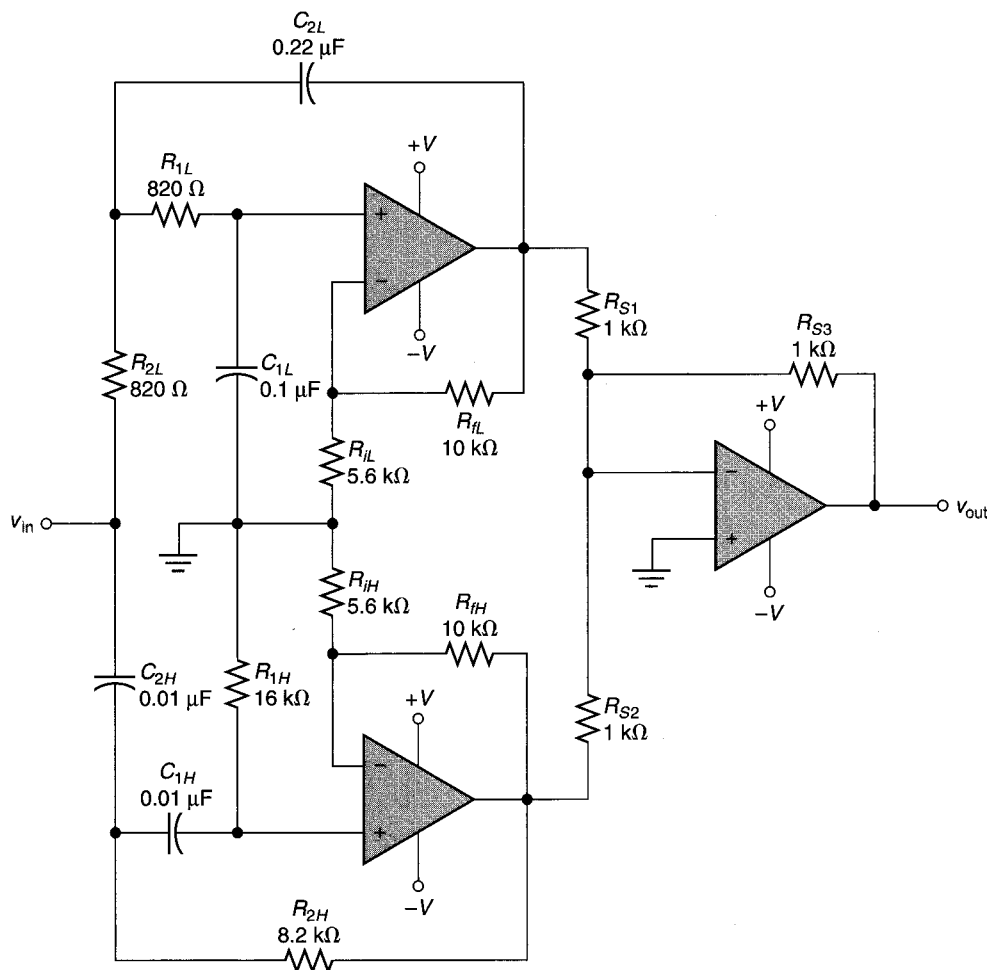

FIGURE 17.54
- 23.** Calculate the values of  $f_{C1}$ ,  $f_{C2}$ , bandwidth, geometric center frequency, and  $Q$  for the notch filter in Figure 17.54.